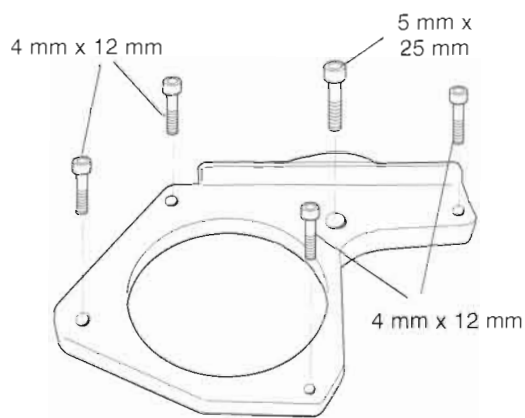

Figure 10.11 757 Chain Brake Mounting Locations
- STEP 3.** Remove the four 4 mm brake assembly mounting screws, and then remove the single 5 mm mounting screw located above the rear bar bolt (Figure 10.11).